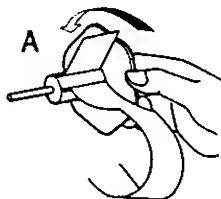

Fig. 11
7. Wind the paper end on the Journal Winding Reel two or three times as shown in Fig. 11.